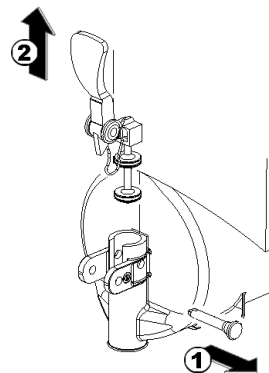

figure 10
5 Dismantle the faucet assembly (see figure 10).
- 3 Assemble the faucet by reversing the disassembly steps (see figure 10)